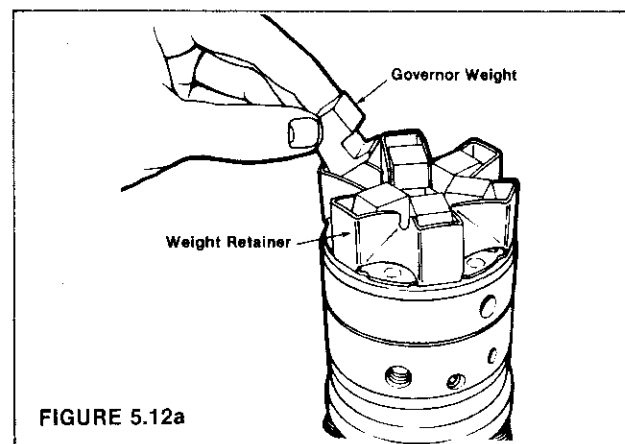

FIGURE 5.12a
STEP 12 Install the governor weights into the governor weight retainer as shown in Figure 5.12a.